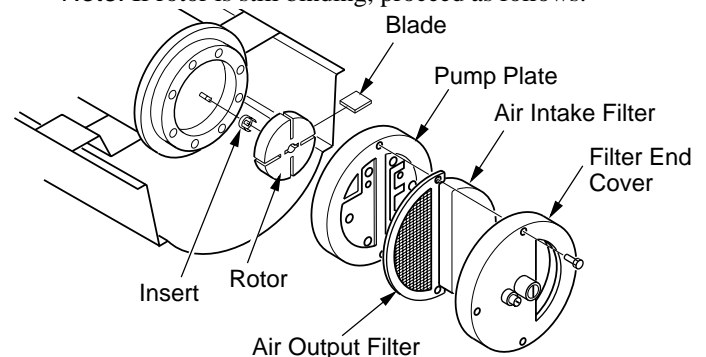

Figure 17 - Rotor Location
- Remove filter end cover screws using 5/16" nut driver (see Figure 17).
- Remove rotor, insert, and blades (see Figure 17).